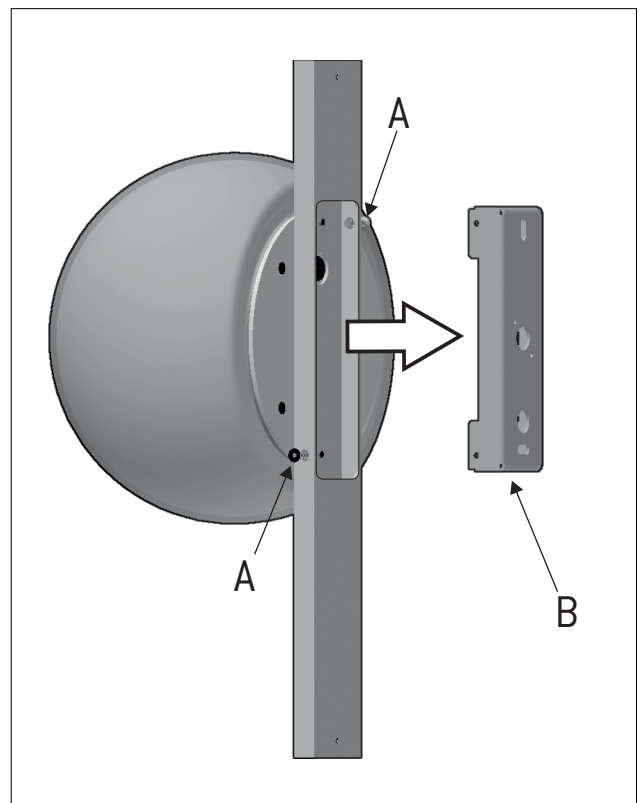

Figure 3
3 - Fix the lamp to the mounting bracket (B). Tighten the lateral screws removed previously back into the canopy (A). Figure 3.